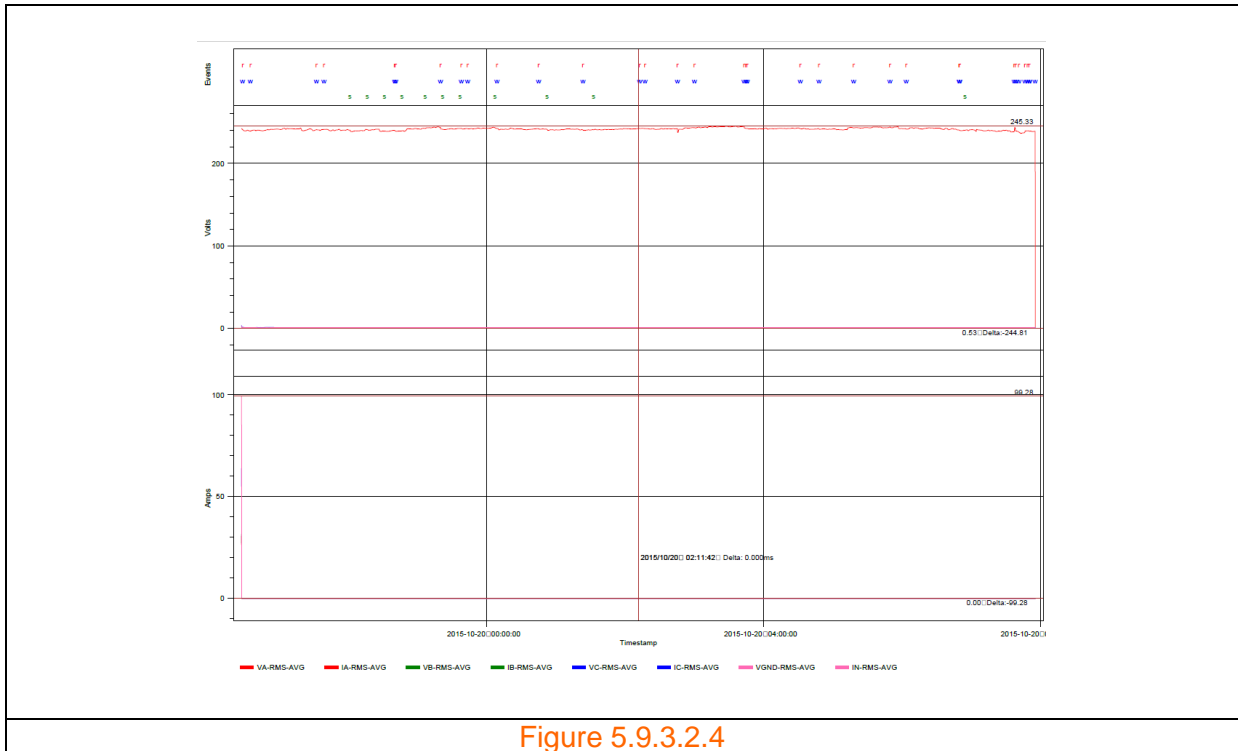

Figure 5.9.3.2.4
Step 1: Click the 'Export' menu shown in figure 5.9.3.2.1. A drop down box appears as shown in figure 5.9.3.2.2.
Step 2: Hover and click on 'Generate PDF'. A window opens as shown in figure 5.9.3.2.3 allowing the user to enter a file name and save to a particular folder. Click 'Save'.
Step 3: Click on the saved .PDF. Example .PDF is shown in figure 5.9.3.2.4.